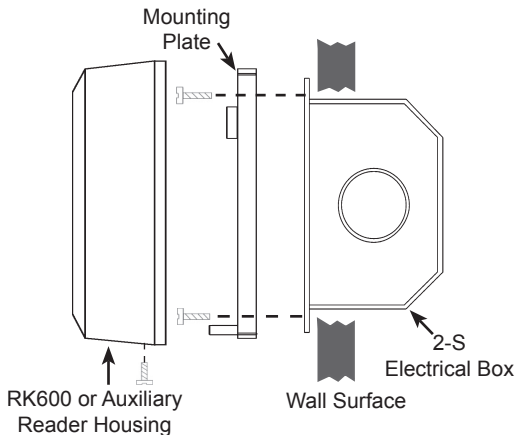

Figure 4 - Basic Installation
1. Orient the mounting plate with the threaded insert at the bottom; attach it to a single-gang electrical box with two 6-32 x 1/2" screws (supplied); or attach directly to the wall surface, using anchor screws or toggle bolts (Figure 4).